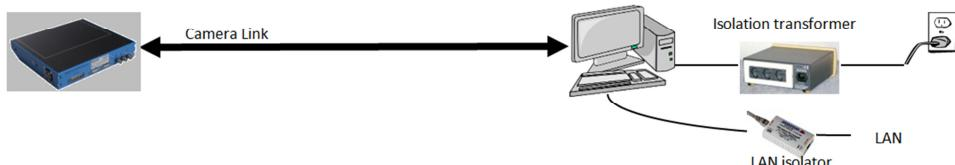

Figure 24: Mains and LAN isolation. The same applied to GigE.
- Isolation of the PC from its electrical environment (for both CL and GigE, Figure 24 below)